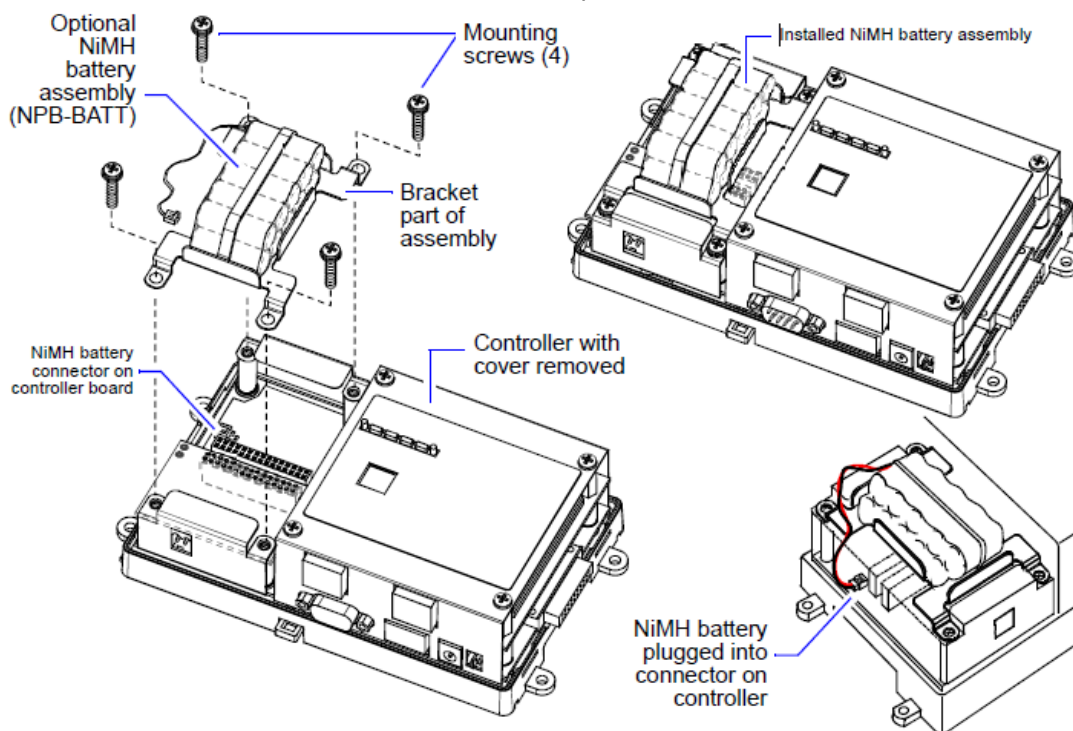

Figure 14: Optional NiMH Battery Pack for FX30E/FX60E
5. If a battery assembly is already mounted, unplug the battery from the connector on the controller board. See Figure 14.
7. Plug the battery connector plug of the new battery assembly into the battery connector on the controller. See Figure 14.